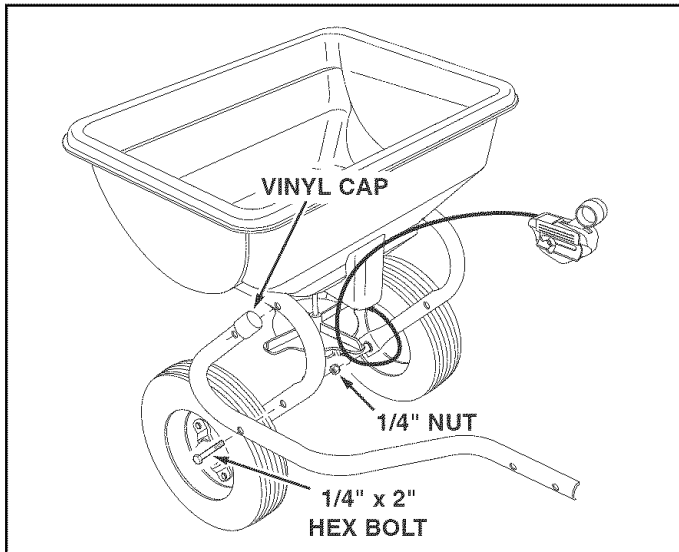

FIGURE 1
- Assemble vinyl caps onto the ends of the R.H. and L.H. Hitch Tubes. See figure 1.
- Assemble the R.H. Hitch Tube to the spreader frame tube using two 1/4" x 2" hex bolts and 1/4" nuts. **Do not tighten yet.** Repeat for L.H. Hitch Tube. See figure 1.